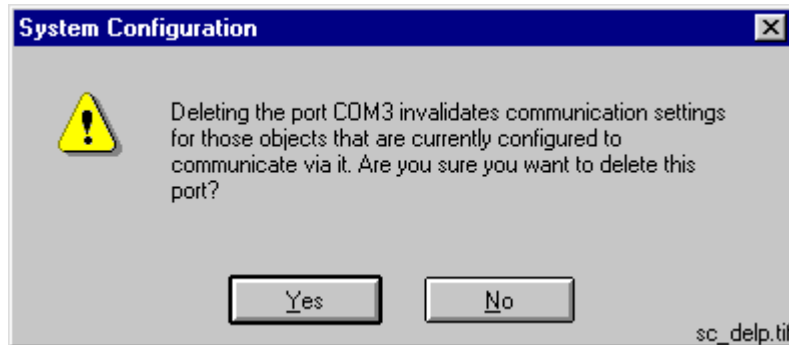

Fig. 4.5.4.4.-1 Confirm to delete the selected serial port
3. When prompted to confirm the deletion, click Yes to delete the serial port (see Figure 4.5.4.4.-1). Otherwise click No to leave the serial port intact.